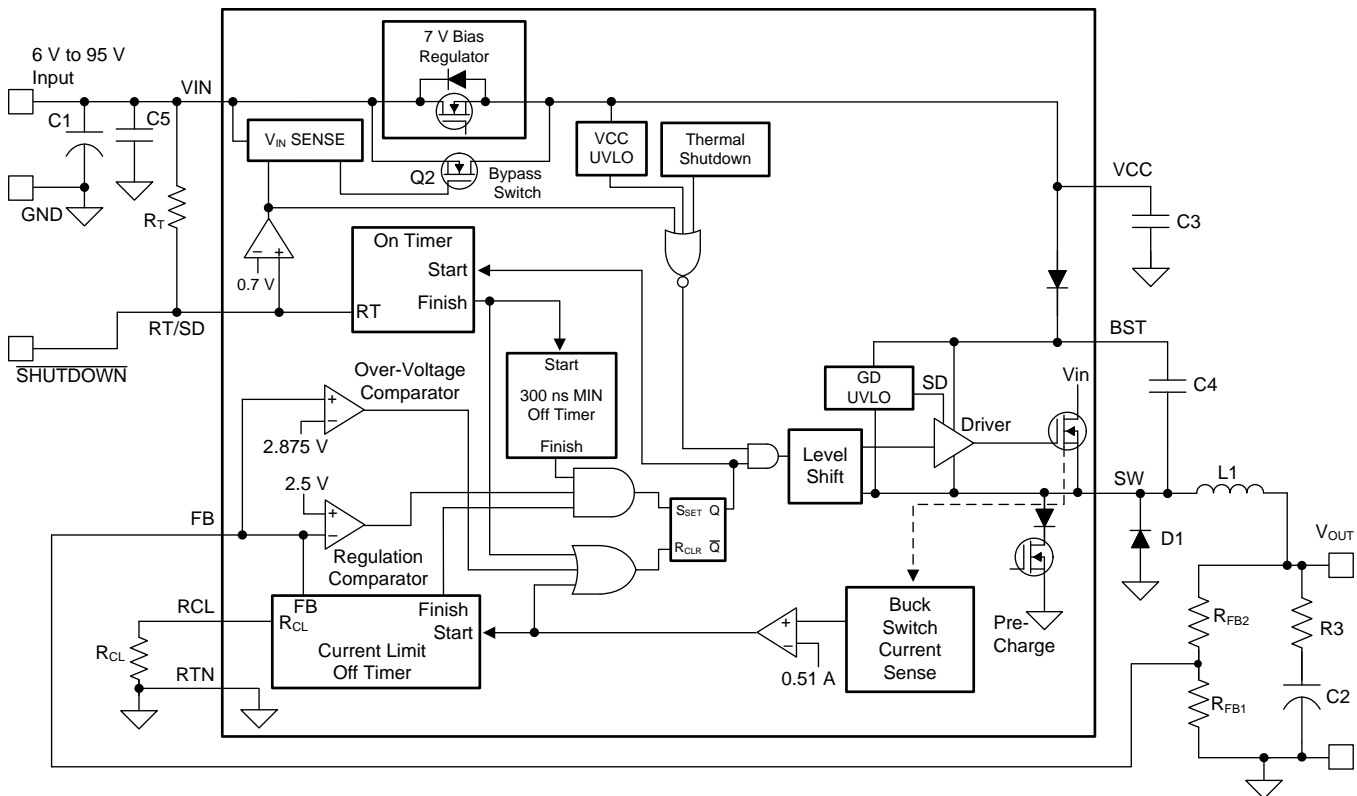

Figure 50. Functional Block Diagram
The output voltage (V_{OUT}) is programmed by two external resistors as shown in Figure 50. The regulation point can be calculated with Equation 7.
The LM5008A regulates the output voltage based on ripple voltage at the feedback input, requiring a minimum amount of ESR for the output capacitor C2. A minimum of 25 mV to 50 mV of ripple voltage at the feedback pin (FB) is required for the LM5008A. In cases where the capacitor ESR is too small, additional series resistance may be required (R3 in the Figure 50).
The high voltage bias regulator is integrated within the LM5008A. The input pin (V_{IN}) can be connected directly to line voltages between 6 V and 95 V, with transient capability to 100 V. Referring to the Figure 50, when V_{IN} is between 6 V and the bypass threshold (nominally 8.5 V), the bypass switch (Q2) is on, and V_{CC} tracks V_{IN} within 100 mV to 150 mV. The bypass switch on-resistance is approximately 100 Ω , with inherent current limiting at approximately 100 mA. When V_{IN} is above the bypass threshold Q2 is turned off, and V_{CC} is regulated at 7 V. The V_{CC} regulator output current is limited at approximately 9.2 mA. When the LM5008A is shut down using the RT/SD pin, the V_{CC} bypass switch is shut off regardless of the voltage at V_{IN} .